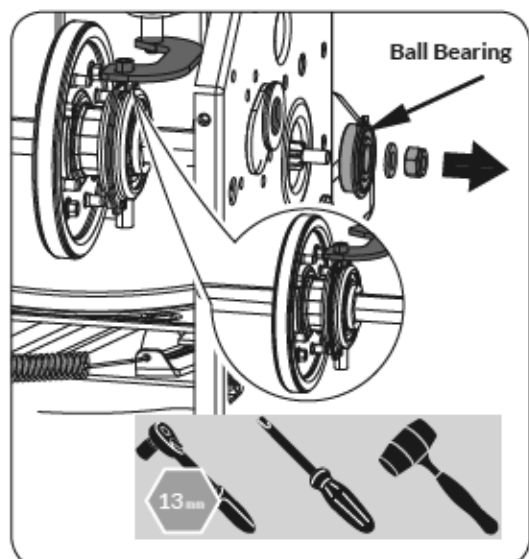

Figure 18b
5. Carefully remove the hex nut and washer which secures the hex shaft to the snow blower frame and lightly tap the shaft's end to dislodge the ball bearing from the right side of the frame. Be careful not to damage the threads on the shaft. (See Figure 18b)